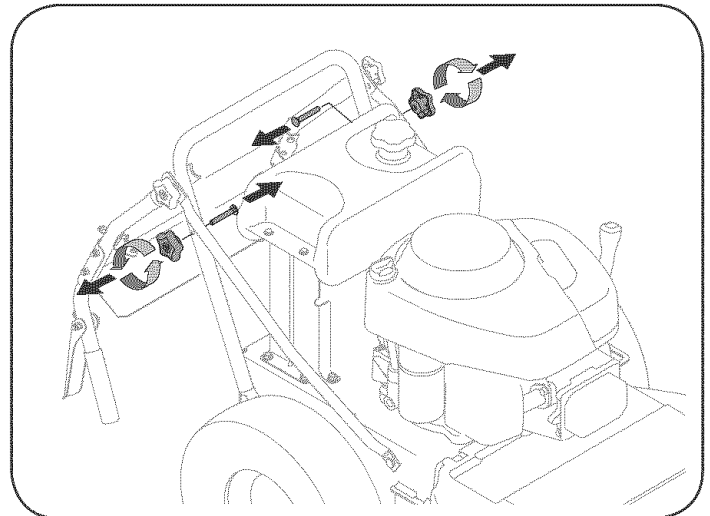

Figure 2
1. Remove lower star knobs and carriage screws from lower handle, Figure 2.